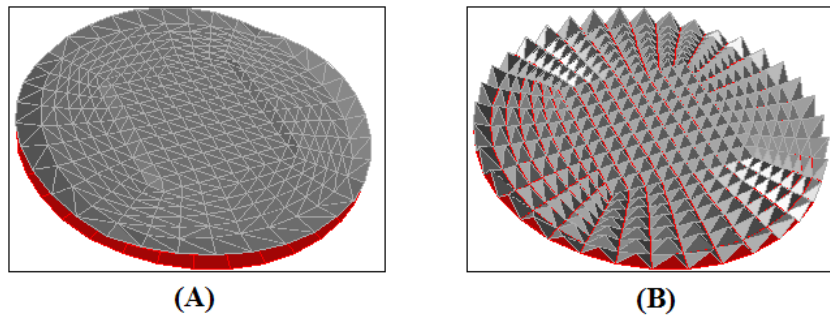

Figure 9.3.2: Pyramid Cap (A) Using the Fill Cap Option (B) Without the Fill Cap Option
5. Enable **Fill Cap**, if required. The **Fill Cap** option inserts a tetrahedral cell between the exposed pyramid faces satisfying the **Face Angle** criterion (see Figure 9.3.2).